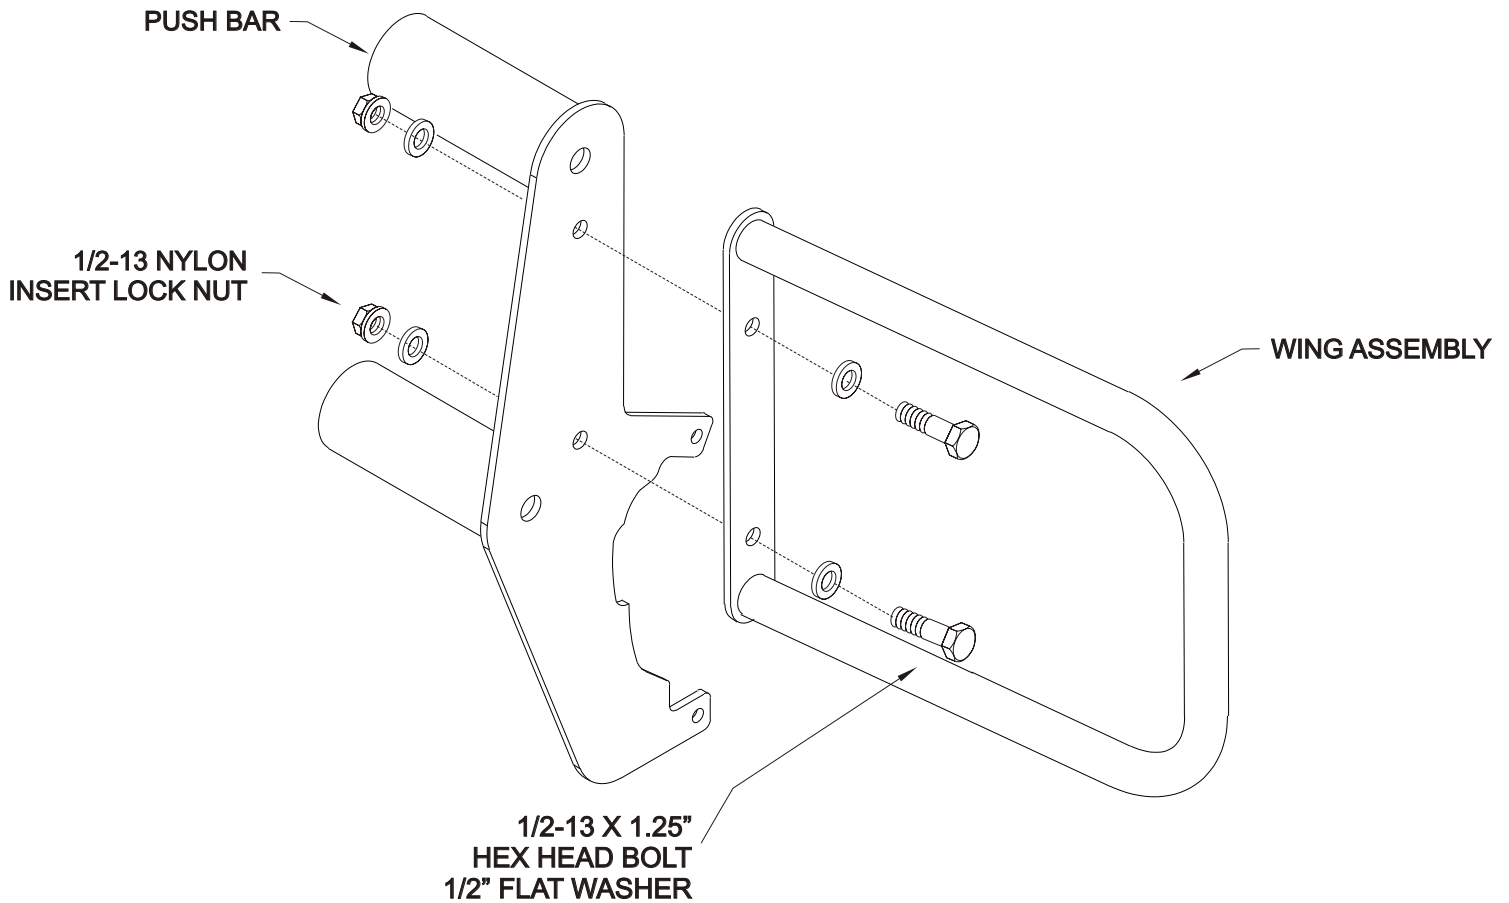

FIGURE 1.
- STEP 4. Position wing assembly to push bar side plate with wing following the grille contour. Attach using 1/2" fasteners as shown. **SEE FIGURE 1.**